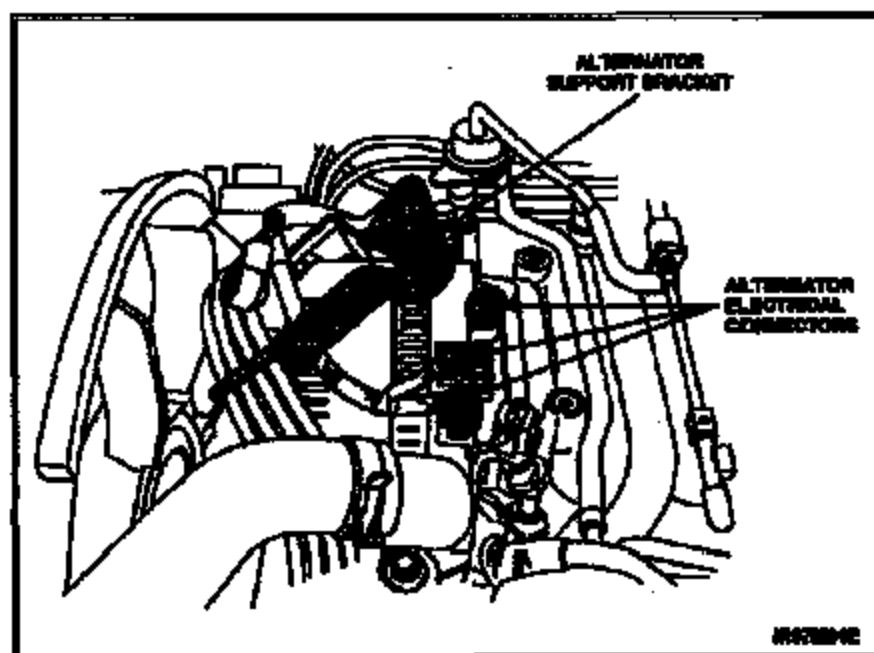

Figure 5
16. Remove retainers from alternator upper support bracket, then slightly raise bracket. Refer to Figure 5.
17. Disconnect all alternator electrical connectors. See Figure 5.